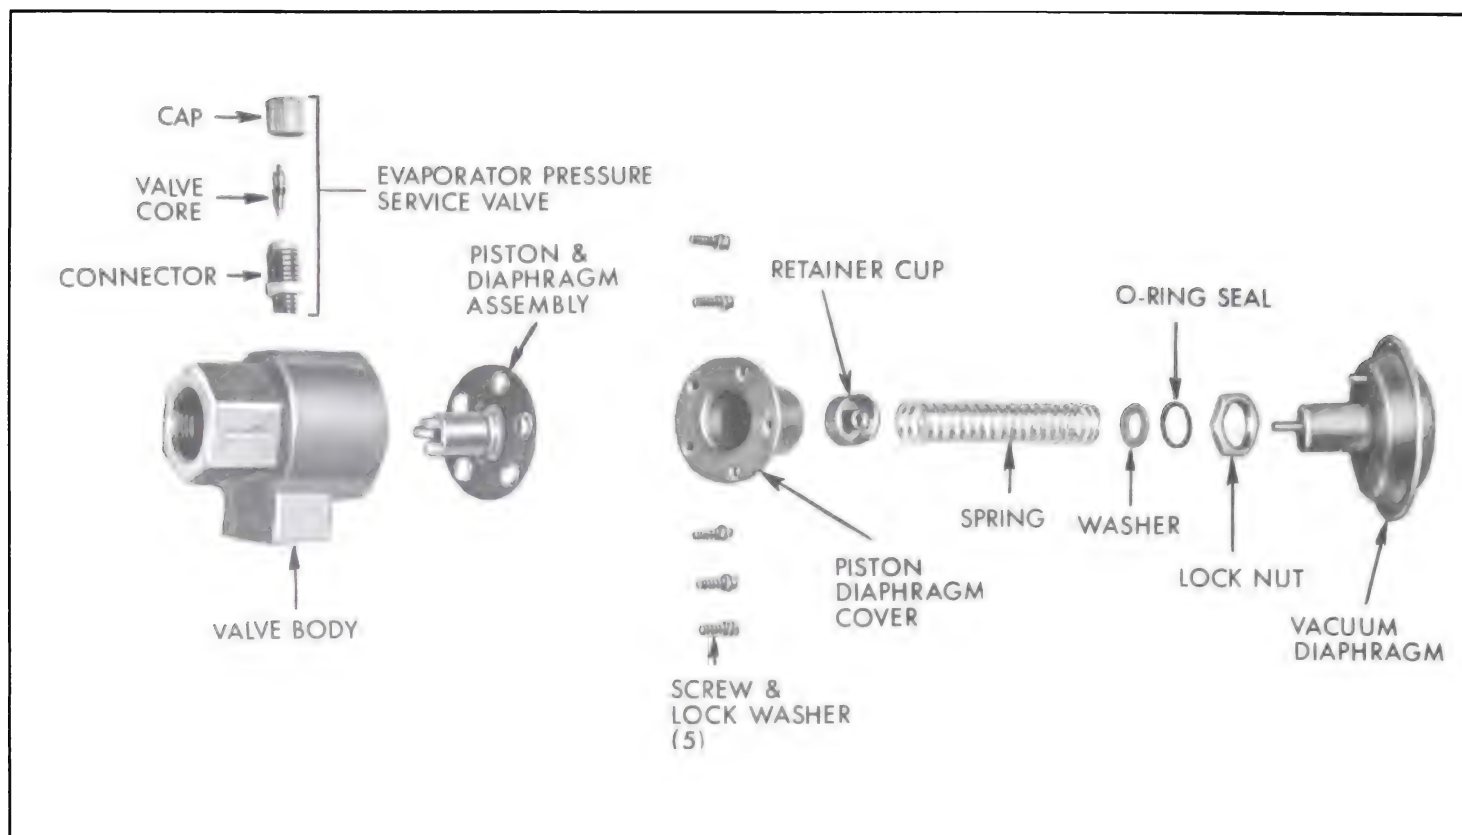

Figure 11-91—Suction Throttling Valve (Exploded View) - 4700 Series
1. With valve removed from car, loosen lock nut on vacuum diaphragm and turn diaphragm assembly out of cover. On 4700 valve, discard "O" ring on sleeve of diaphragm. See Figure 11-91.
NOTE: Figure 11-91 shows the 4700 series suction throttle valve. The 4400, 4600 and 4800 suction throttle valve is basically the same except a different diaphragm is used and an "O" ring is not used on the vacuum diaphragm.